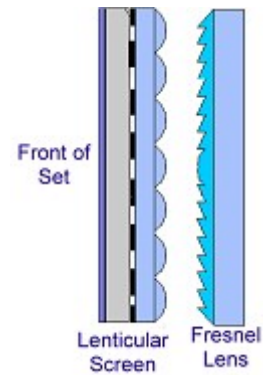

Figure 6
Step 6 – The parts kit comes assembled. Carefully install so that the Lenticular (Dark side) screen side is facing the front of the set. See figure 6. Reassemble the unit by reversing the procedure above.